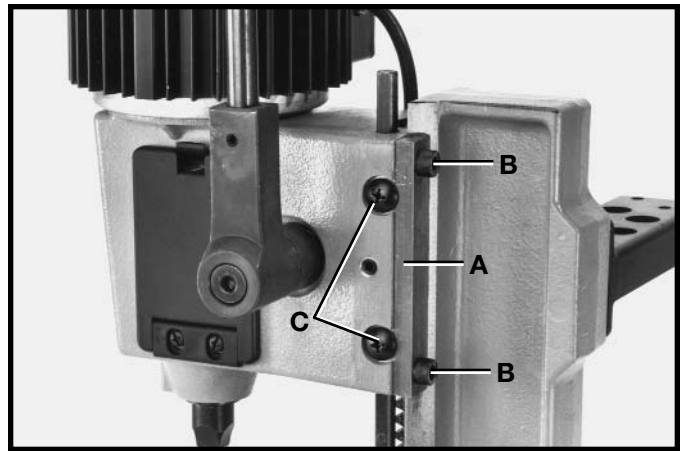

Fig. 32
A dovetail gib (A) Fig. 32, is provided on the rear of the head to insure a good sliding fit between the head and the column when the head is raised and lowered. Adjustment is made by loosening the two screws (B) and turning adjusting screws (C). Then tighten two screws (B). **NOTE:** Correct adjustment is when a good snug sliding fit is obtained without any side movement between the gib and the column. This adjustment should not be too tight that it restricts the sliding movement or too loose that it affects accuracy.